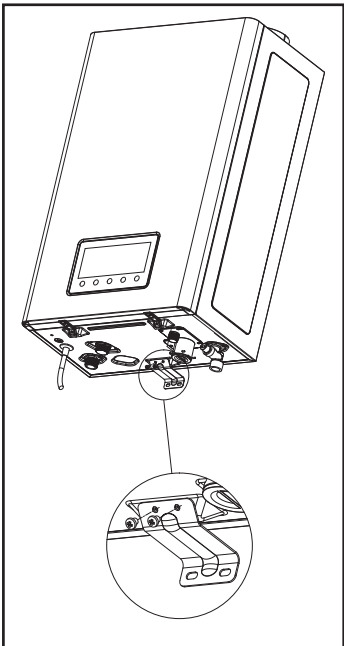

Fig. 6.3
2. Use the screws in the package to secure the lower bracket to the bottom of the water heater. **(See Fig. 6.3)**